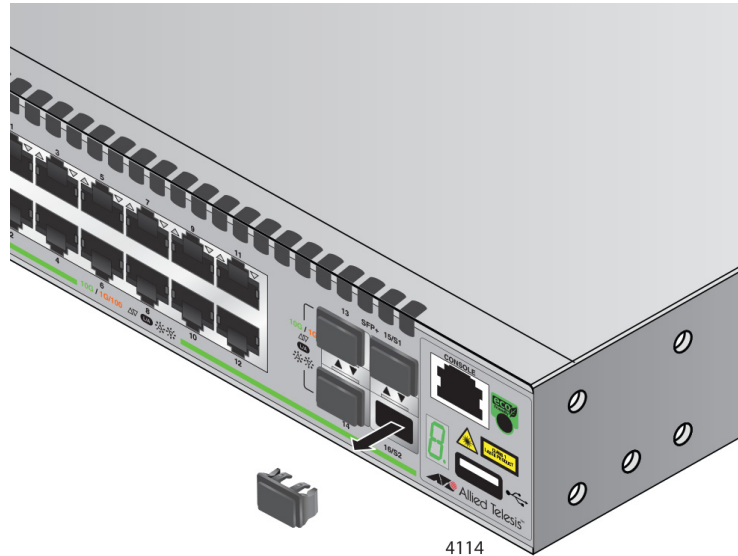

Figure 36. Removing the Dust Plug from the S2 Slot
5. Remove the dust cover from the S2 slot in the next switch in the stack as shown in Figure 36.